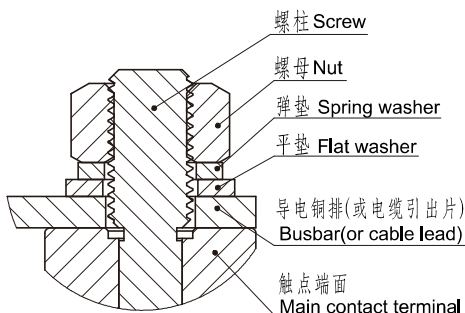

图1(Fig1)
- 当产品使用1个及多个导电铜排连接时，请确保导电铜排与触点端面紧密贴合（多个铜排需确保大电流的导电铜排最贴近触点端面，小电流的导电铜排其次），然后是平垫圈、弹簧垫圈、螺母。不正确的连接顺序可能造成严重过热，参考下图1：
When the product is connected with one or more conductive copper bars, please ensure that the conductive busbars closely fit the contact terminal surface (The conductive copper bars with high current must be closet to the contact terminal surface if there are multiple copper bars and then conductive busbars with low current), followed by flat washers, spring washers and screws. Incorrect connection sequence perhaps give rise to severe overheating. Refer to Figure 1 as follows: